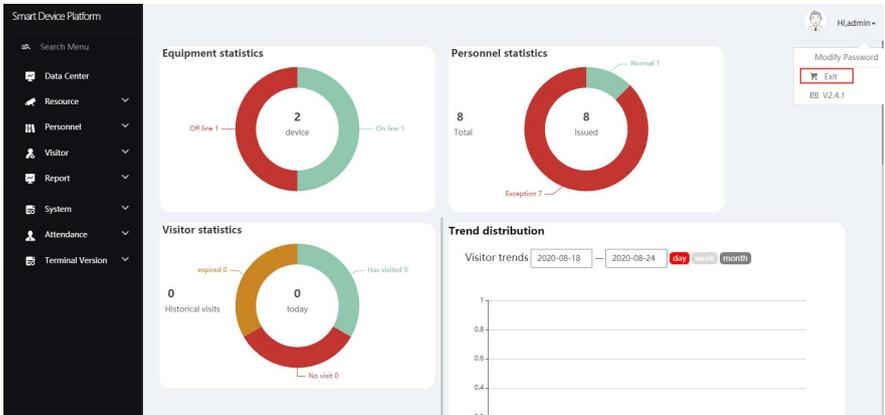

Figure 5-106
Step 1: In the smart device platform interface, click "Exit", as shown in Figure 5-106 below.